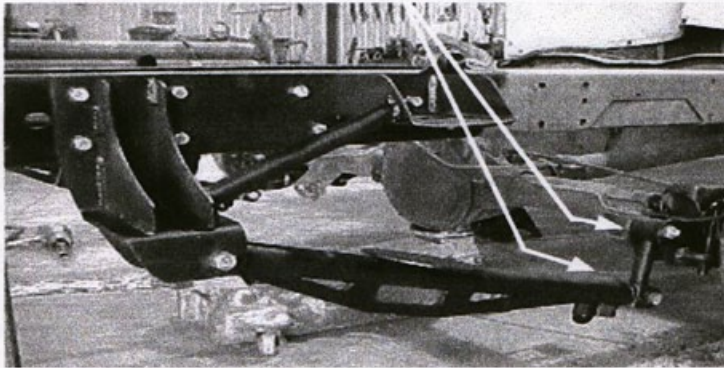

Figure 5
9. Attach the cantilever assembly to the cantilever brackets with the two 9/16" x 4" bolts and two 9/16" locking nuts. Then attach the link to the axle brackets using two 9/16" x 3" bolts and two 9/16" locking nuts. These two bolts must be installed from the center of your vehicle outward. **Figure 5.**